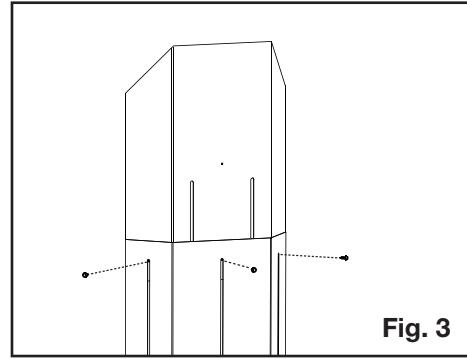

Fig. 3
3. Install the other vent shield on the opposite side of the firestop spacer (**Figure 3**).
3. Use the fasteners in step 1 to hold the new vent shield height (**Figure 3**).